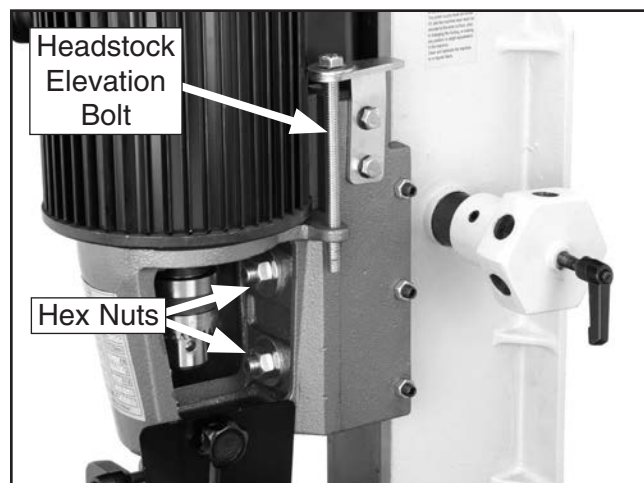

Figure 19. Head height controls.
2. Loosen the two large hex nuts on the inside of the head (see **Figure 19**).
3. Adjust the headstock elevation hex bolt, shown in **Figure 19**, to raise or lower the head.